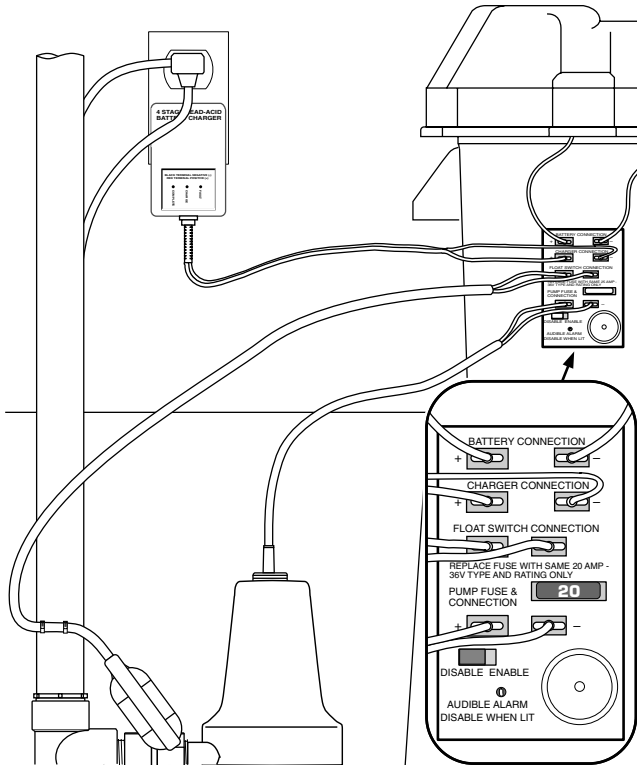

Figure 9 – Wiring Connections MBSP
1. Apply two pieces of two-sided tape (provided, Key No. 9) to the back of the junction box. Press the junction box onto the battery box as illustrated in Figure 9 and on Page 15 (Exploded View).
2. Connect the charger as shown in Table I and Figure 9.